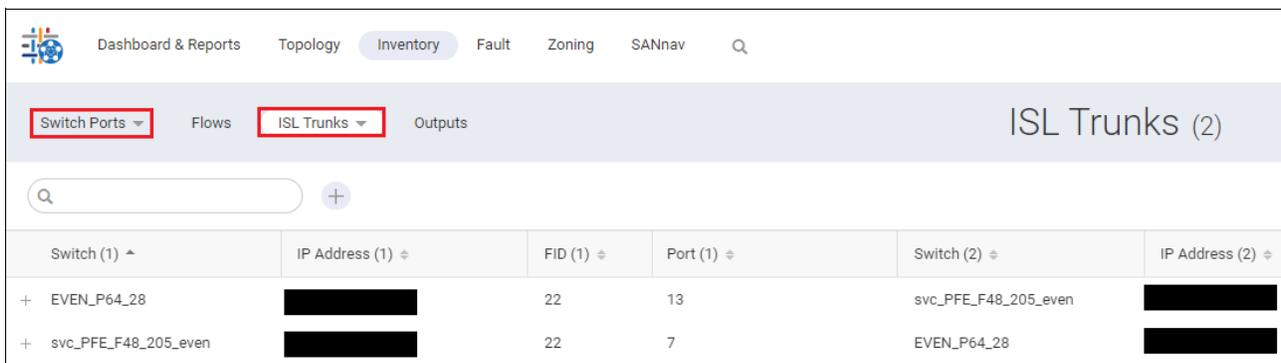

Figure 5-114 Collecting items in the sidebar for Investigation Mode
4. Select **ISL Trunks**, **IFL Trunks**, **F Port Trunks**, or **Extension Tunnels** from the next drop-down list. You cannot add circuits to the sidebar (Figure 5-114).